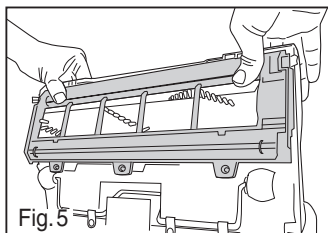

Fig. 5
- Push tool onto end of wand (Fig. 5).
• Press plate tightly, making sure 4 hooks latch around rod (Fig. 5).
- Rotate wheel and belt toward vacuum front to center belt on wheel (Fig. 5).